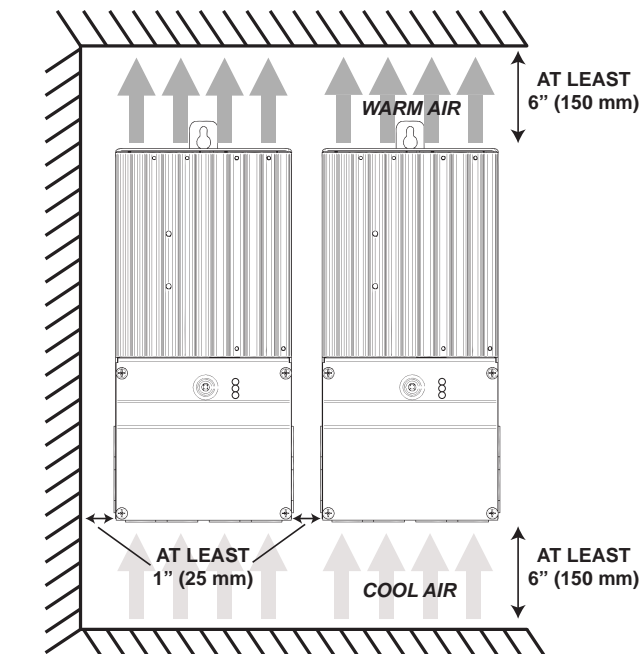

Figure 3-3. Required mounting clearance for air flow.
2. Place the TriStar MPPT 150V on a vertical surface protected from direct sun, high temperatures, and water. The TriStar MPPT 150V requires at least 6" (150 mm) of clearance above and below and at least 1" (25 mm) on each side for proper air flow as shown in figure 3-3 below.